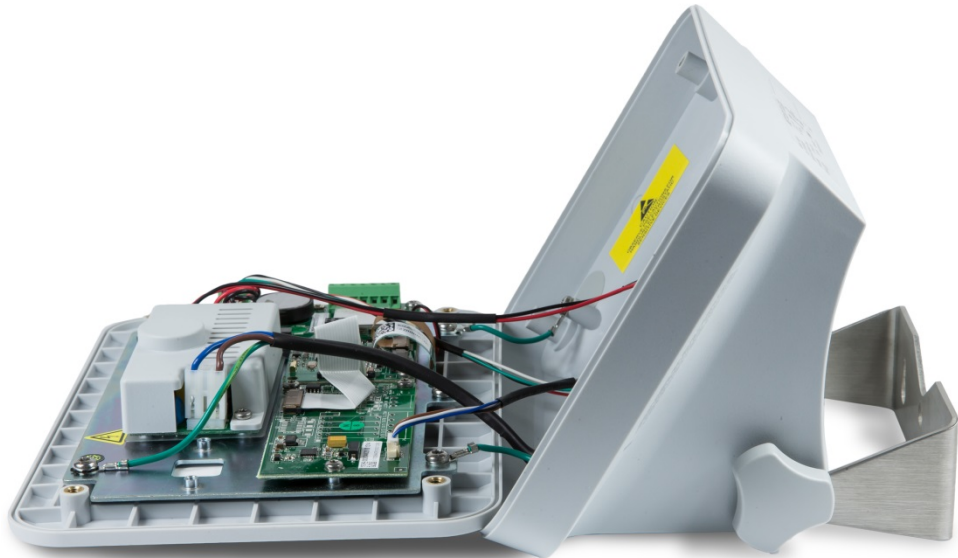

Figure A-3: Removing the Cover
- Separate the front housing from the rear housing, as shown in Figure A-3.